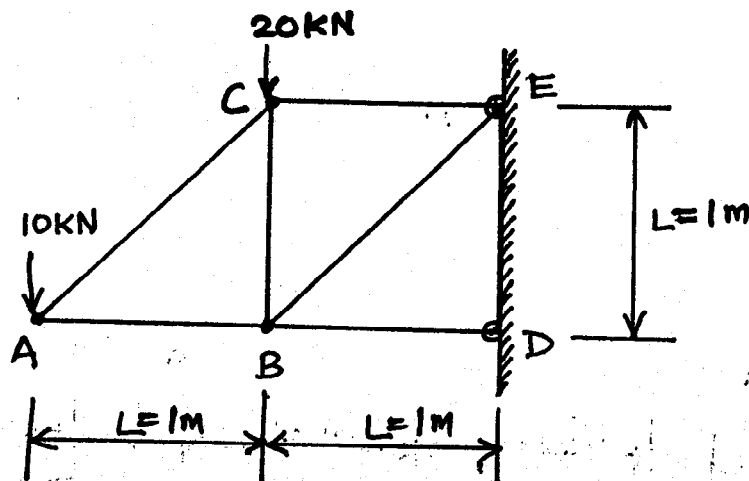

Fig. Q2.
- Q2. In the pin-jointed cantilever truss shown in fig. Q2, all the members have a cross sectional area of  $350 \text{ mm}^2$  and elastic modulus  $205 \text{ G N/m}^2$ . Find: